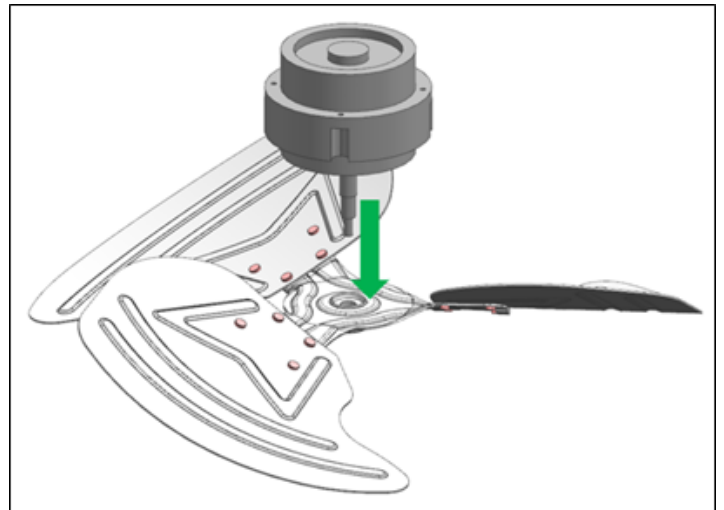

Fig.8
9. Finally, remove the blade assembly from the motor shaft (Fig.8). The motor removal is now complete;